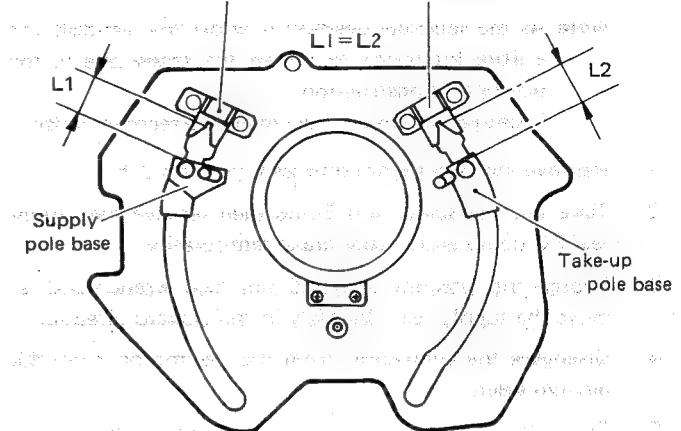

Fig. 2-18 Loading ring check
8. Turn the loading motor pulley by hand to move the loading ring slightly in the unloading direction. Check for equal spacing between the supply pole guide and supply pole base, and between the take-up pole guide and take-up pole base. See Fig. 2-18. If not equal, the loading gear ass'y mounting position is incorrect. Repeat the above step 7.